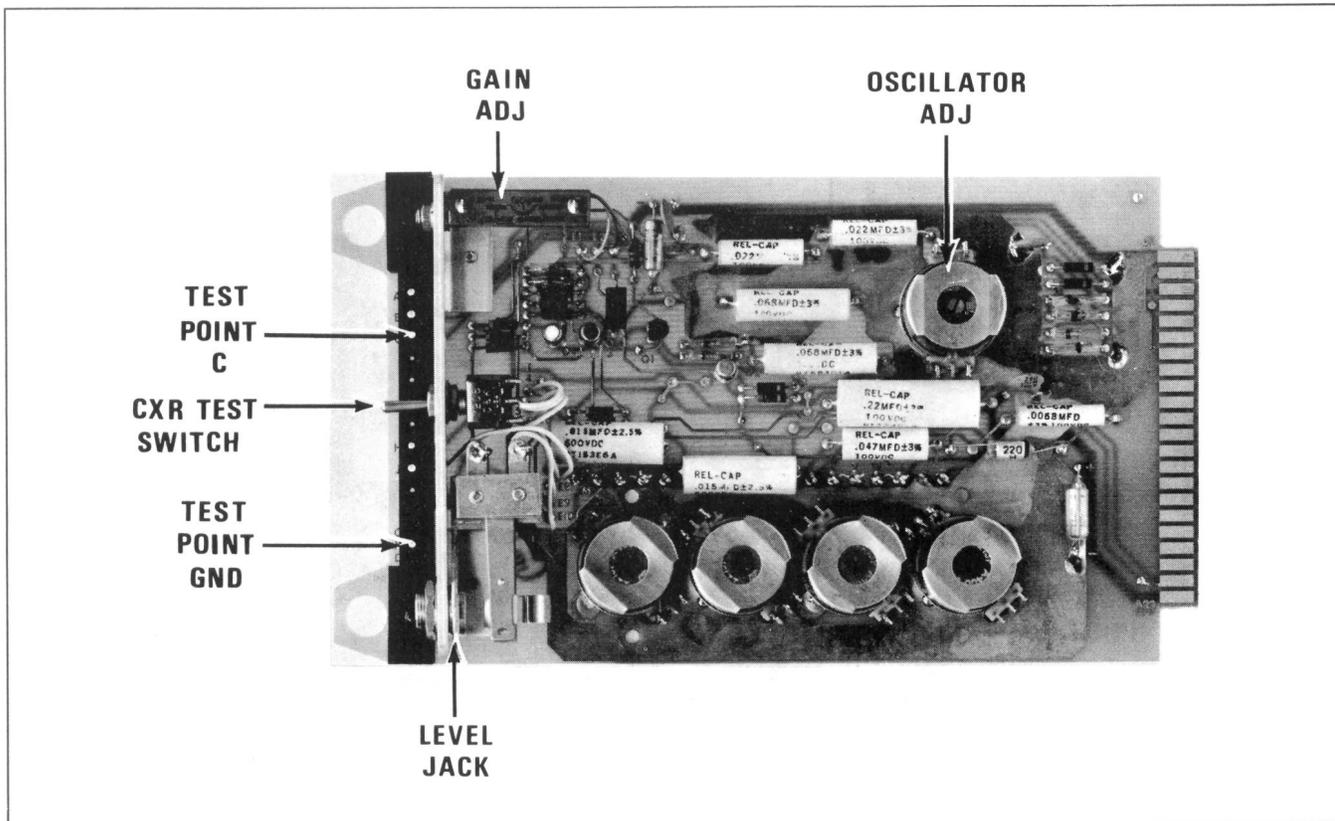

Figure 28 - Card 001494—Component Arrangement
- a. Using a nonmetallic tuning tool, adjust the OSCILLATOR ADJ slug (Figure 28) for a counter reading of precisely 2430 Hz. (Keep the CXR TEST switch at SP during this step.)